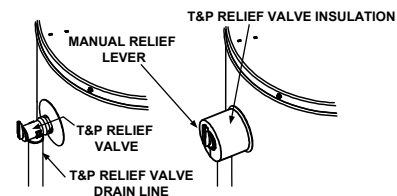

FIGURE 26.
1. Locate the temperature and pressure relief valve on the water heater (also known as a T&P relief valve). See Figure 26.
3. Spread the slit open and fit the insulation over the T&P relief valve. See Figure 26. Apply gentle pressure to the insulation to ensure that it is fully seated on the T&P Relief Valve. Once seated, secure the insulation with duct tape, electrical tape, or equivalent. **IMPORTANT:** The insulation and tape must not block the discharge opening or hinder access to the manual relief lever (Figure 26). Ensure a discharge pipe is installed into the T&P valve discharge opening per the instructions in this manual.